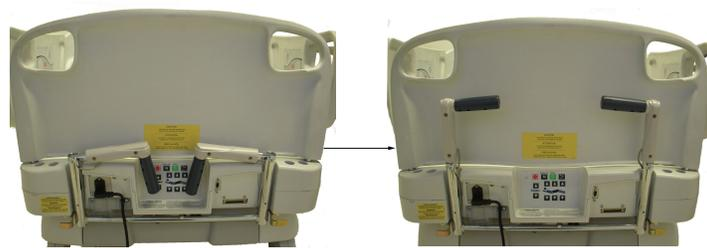

Figure 7: Unfolding the Zoom motorized drive handles
3. Unfold the drive handles from the head end of the product (Figure 7 on page 21). Make sure that the drive handles lock into the upright position.